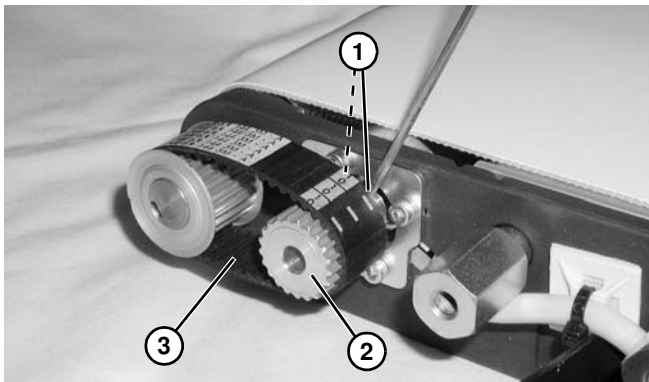

Figure 128
- Loosen two set screws (**Figure 128, item 1**) on drive pulley (**Figure 128, item 2**). Slide drive pulley outward off of gearmotor shaft and remove timing belt (**Figure 128, item 3**).